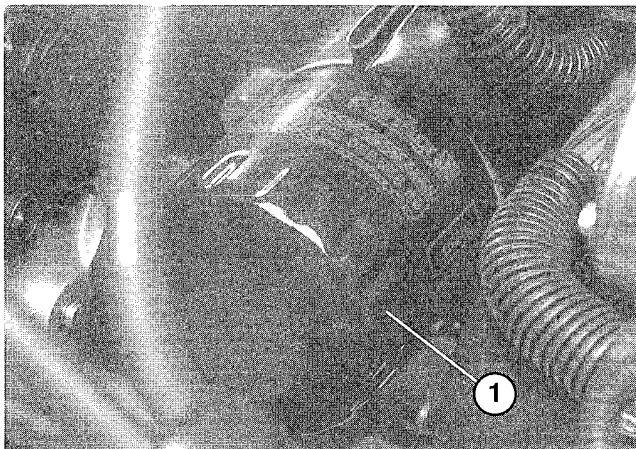

Figure 40
2. Remove oil filter (Fig. 40). Apply a light coat of clean oil to the new filter seal before screwing it on. **DO NOT OVER-TIGHTEN.**